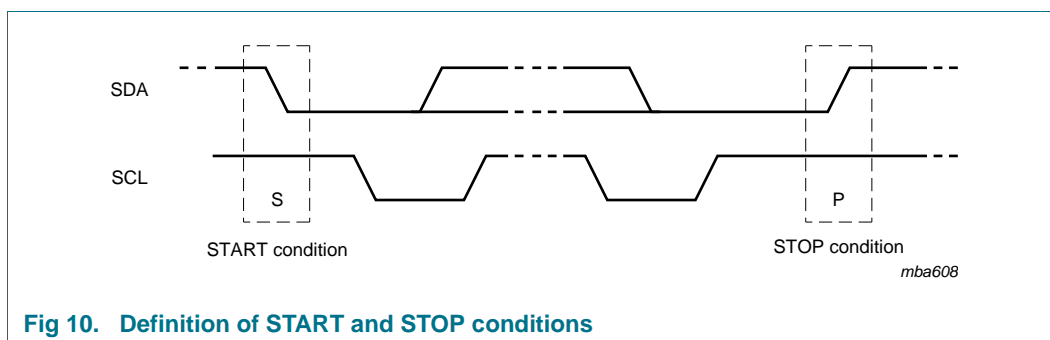

Fig 10. Definition of START and STOP conditions
Both data and clock lines remain HIGH when the bus is not busy. A HIGH-to-LOW transition of the data line, while the clock is HIGH is defined as the START condition (S). A LOW-to-HIGH transition of the data line while the clock is HIGH is defined as the STOP condition (P) (see Figure 10).